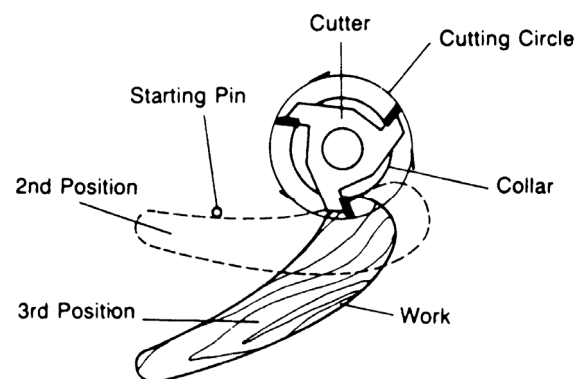

Figure 20
2. After the cut has been started, the work is swung free of the starting pin and rides only against the collar as shown in the third position in Figure 20. Always feed against the action of the cutter.